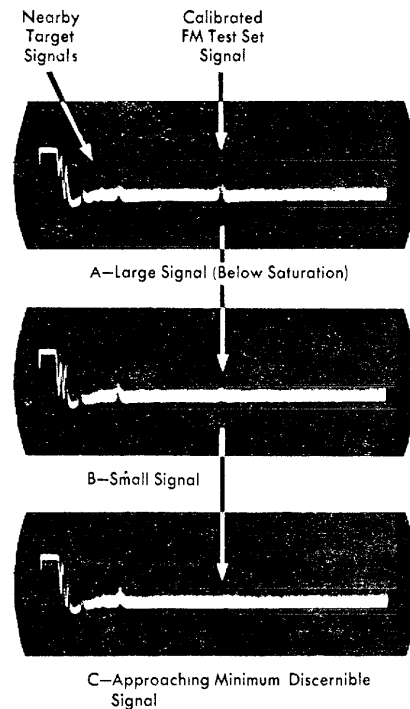

Figure 4-11. Measuring Minimum Discernible Signal Power
(1) Check the receiver frequency (see par. 9.), unless it is known that the radar receiver is tuned to its transmitter.
(2) Turn the radar AFC on (if operative) and set the radar receiver gain to show a part of the transmitter pulse and the noise.
(3) Tune the test set to the receiver. (See par. 5b.)
(4) Adjust the test set wattmeter (See par. 4b(2).)
(5) Turn the TEST knob to the RECV position, and turn the DBM knob clockwise. The FM signal will again appear on the scope.
(6) Broaden the bandpass curve to maximum by turning the SIGNAL WIDTH control clockwise to CW while at the same time turning the PHASE knob to hold the pattern on the screen. Detune the frequency meter.
(7) Adjust the POWER SET knob until the meter reads SET POWER.
(9) Turn the DBM attenuation control until the test set signal just disappears in the noise. (See figure 4-11. At the point where the signal just disappears, turn the knob in one-dbm steps and move the signal